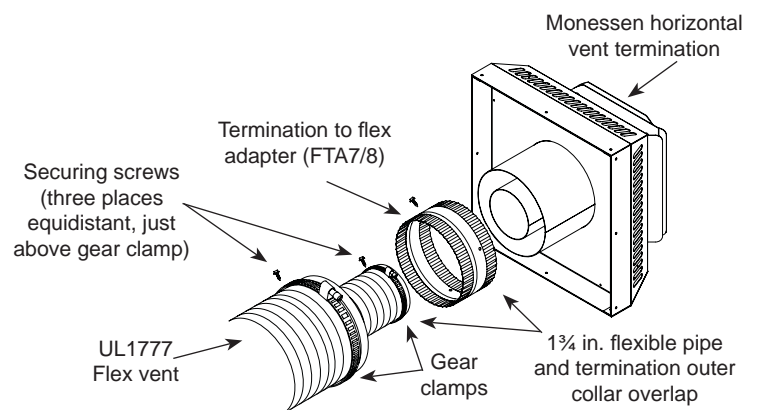

Figure 5 —
1. Connect the 4" flexible vent to the horizontal termination as in *Figure 5*.
3. Connect the 7" flexible vent to the termination adapter ring as in *Figure 5*.
4. Review *Figure 5* for proper overlap and clamp placement
6. Use only listed and approved terminations and accessories, installed per the termination instructions and *Figure 5*.